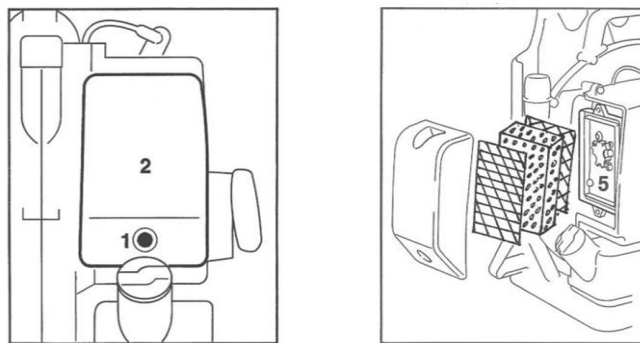

Fig. 7
- Pull out the filter (**Fig. 7**);